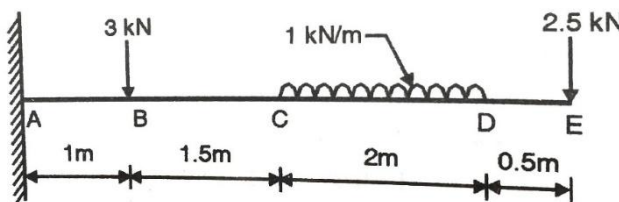

Figure 04
- B) Draw shear force and bending moment diagrams for the cantilever beam as shown in figure 04